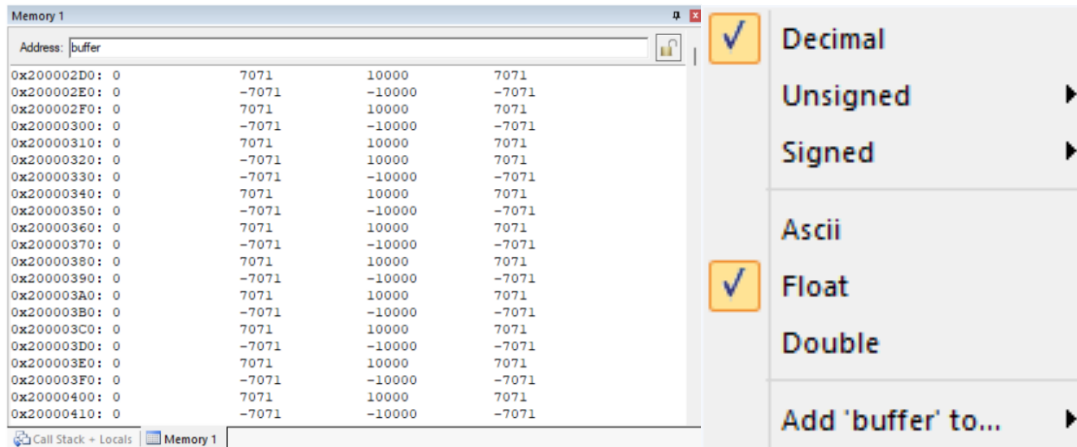

Figure 8: Memory 1 window showing the contents of array `buffer`
3. Type the variable name **buffer** as the **Address** in the debugger's **Memory 1** window. Right-click on the **Memory 1** window and set the displayed data type to **Decimal** and **Float** as shown in Figure 8.